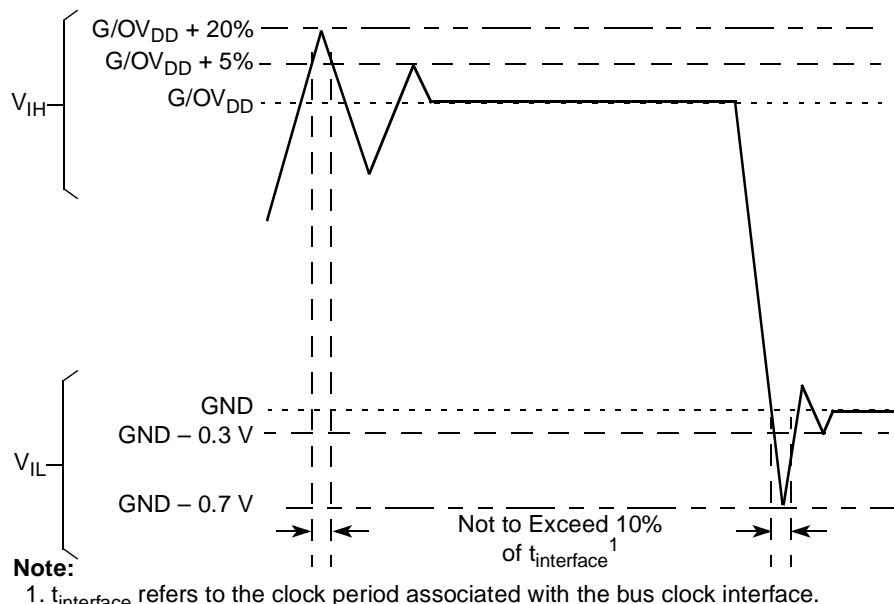

Figure 2. Overshoot/Ubershoot Voltage for GV_{DD}/OV_{DD}
- (M,O)V_{IN} and M_{V_{REF}} may overshoot/undershoot to a voltage and for a maximum duration as shown in Figure 2.
Figure 2 shows the undershoot and overshoot voltages at the interfaces of the MPC8323E.